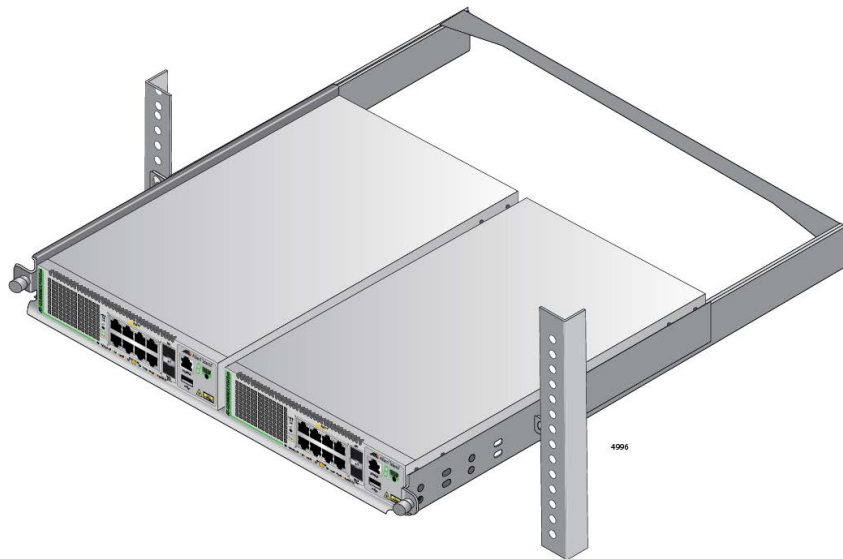

Figure 36. Sliding in the RKMT-J15 Bracket
7. Slide in the bracket tray. Refer to Figure 36.